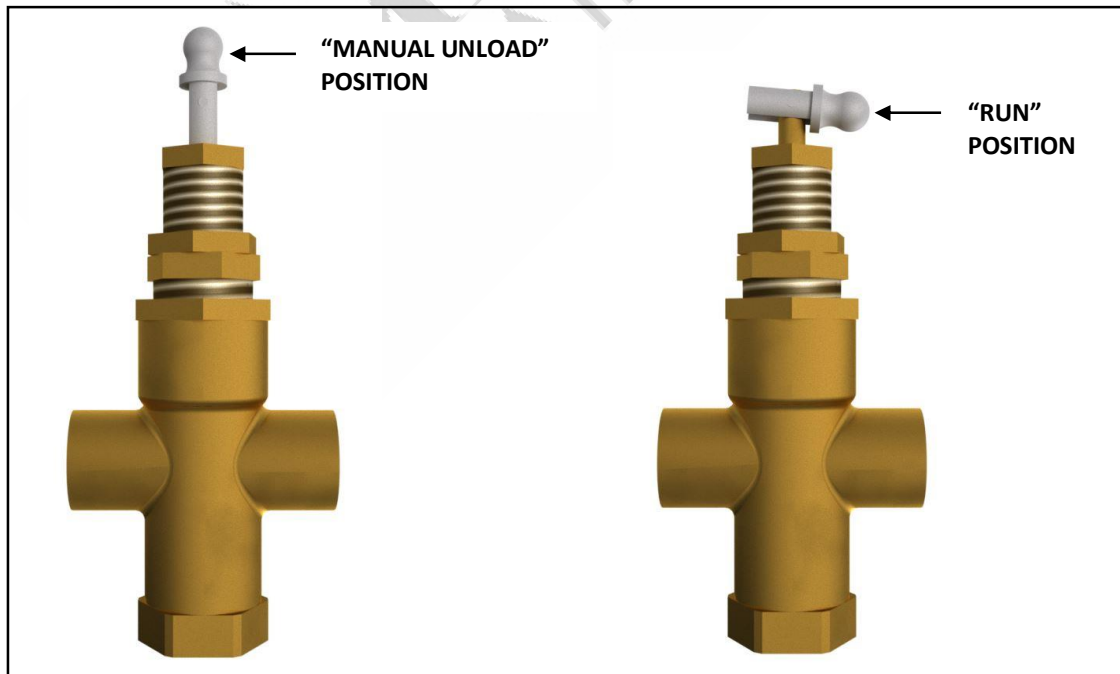

Figure 5
5. Flip toggle lever on pilot valve to the “Manual Unload” position. See Figure 5.
7. Flip toggle lever on pilot valve to the “Run” position. See Figure 5.
4. Flip toggle lever on the pilot valve to the “Manual Unload” position. See Figure 5.
6. Flip toggle level on pilot valve to “Run” position. See Figure 5.